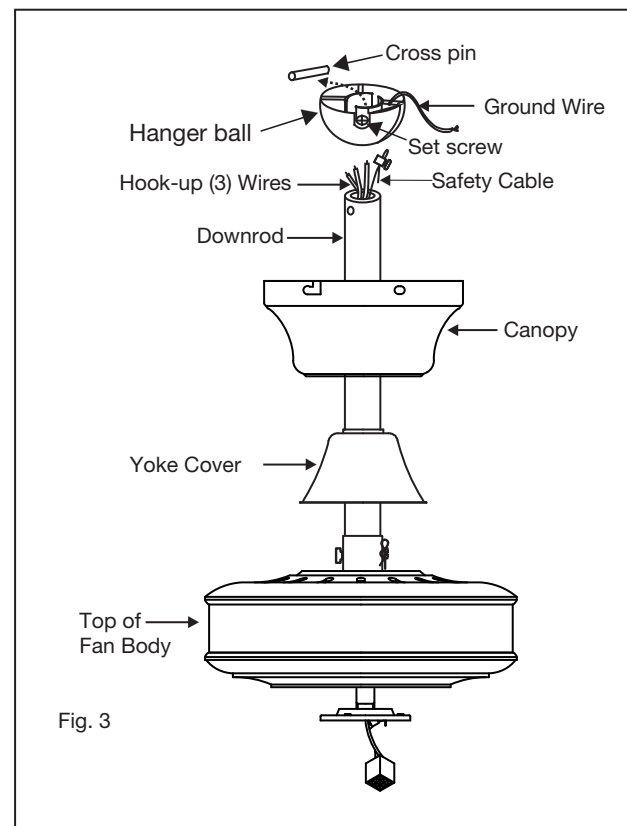

Fig. 3
- 7 Insert 2 screws into the hanger bracket, leaving them partially out (Fig. 3).
- 1 Slip the yoke cover and canopy onto the downrod. (Fig. 3)